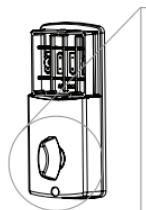

Figure 7a
- a. The Interior Knob goes in the Horizontal position for Left Handed Doors (Figure 7a).